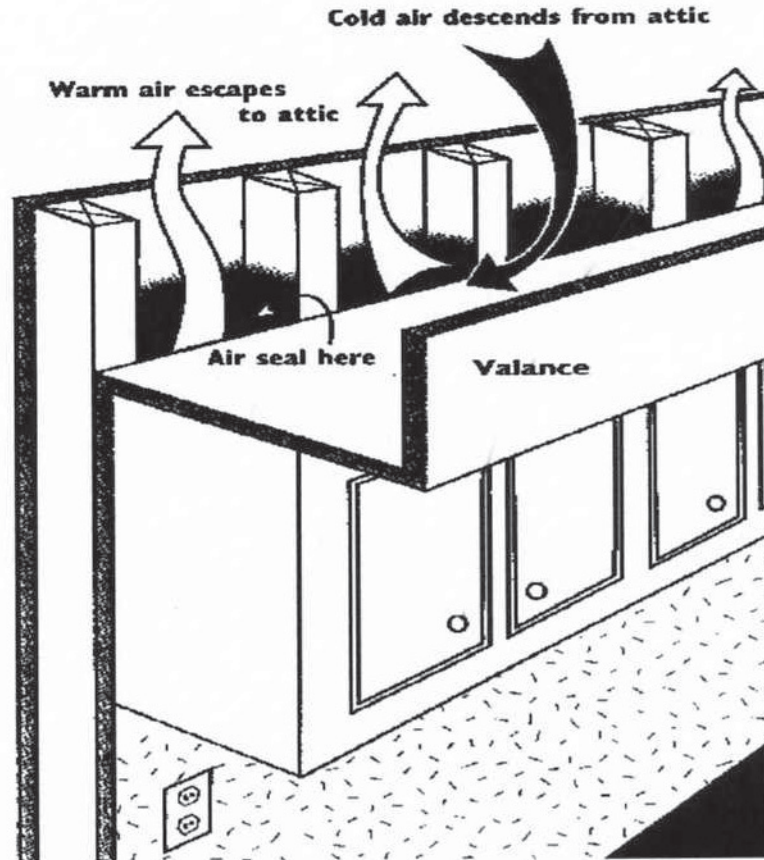

Figure 3: Kitchen Soffit
- Kitchen Soffits (see Figure 3):
The area above kitchen cabinets (often called the soffit or valance) is notorious for being a very leaky component in ranch style homes. The space enclosed by the soffit is often open to the attic and between the individual wall framing components. This lets heated indoor air escape to the attic and allows cold air from the unheated attic to enter the house. An easy method for air sealing this area is to stuff plastic bags with cellulose insulation, then stuff the bags in the appropriate areas (see Figure 3).